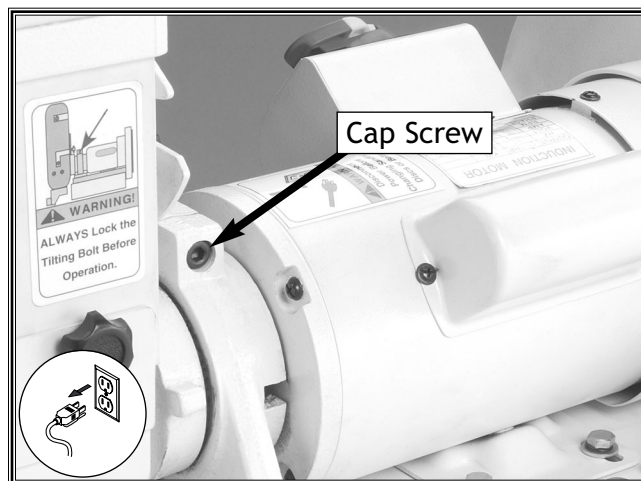

Figure 20. Cap screw location.
3. Loosen the cap screw shown in **Figure 20** to allow the sanding belt to rotate.